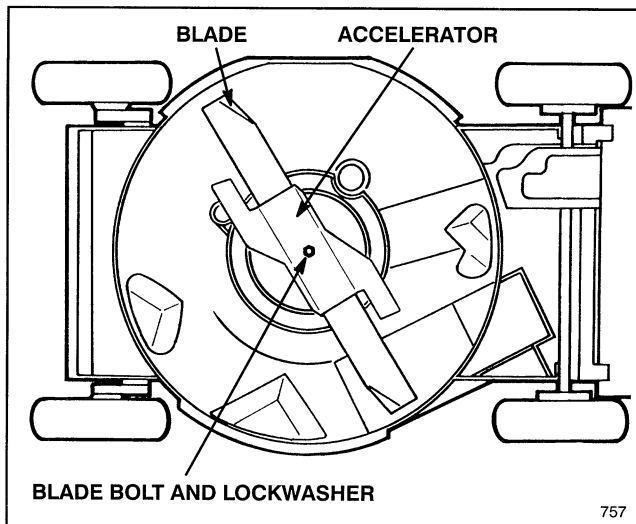

Figure 21
3. Tip mower on its right side (Fig. 21). Avoid rotating blade as starting problems may result.
5. REMOVING BLADE—Grasp end of blade using a rag or thickly padded glove. Remove blade bolt, lockwasher, blade accelerator and blade (Fig. 21).